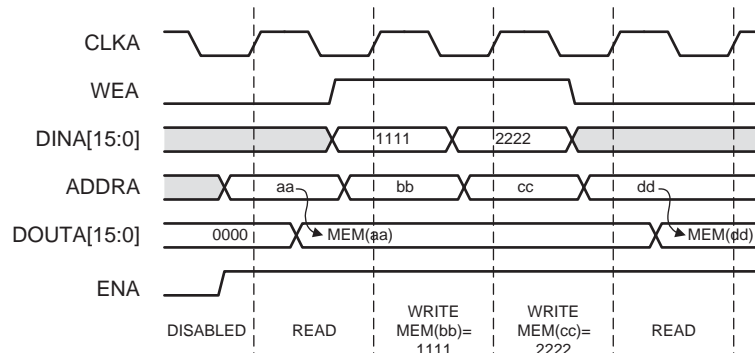

Figure 28: No Change Mode Example
- **No Change Mode:** In NO_CHANGE mode, the output latches remain unchanged during a Write operation. As shown in Figure 28, the data output is still the previous Read data and is unaffected by a Write operation on the same port.